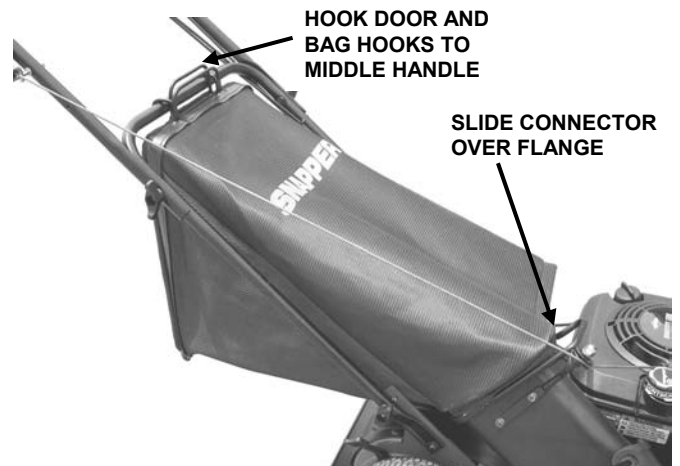

FIGURE 2.14
STEP 2: Install grass bag by opening adapter cover (not shown) and sliding connector over adapter flange. See Figure 2.14.
STEP 3: Attach grass bag hooks over middle handle cross bar. See Figure 2.14.